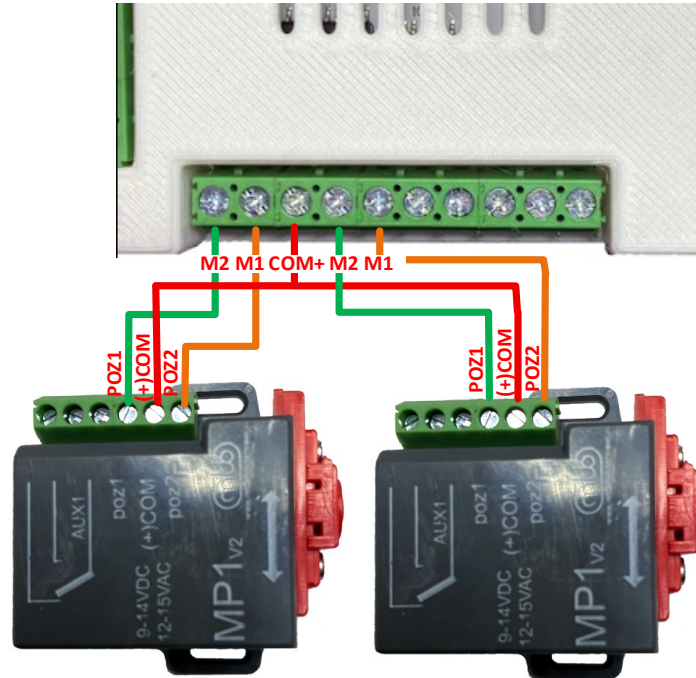

Figure 2. Connection Diagram for MTB MP1 Switch Machines. See also Table 1.
- (3) The WFS-84E only controls motor driven switch machines with reversing end switches. These machines allow control using a SPDT switch rather than requiring a DPDT reversing switch. Connect up to eight such switch machines. Figure 2 shows two MP1 switch machines used as an example. Table 1 show connections for MTB MP1 and MP4 machines.